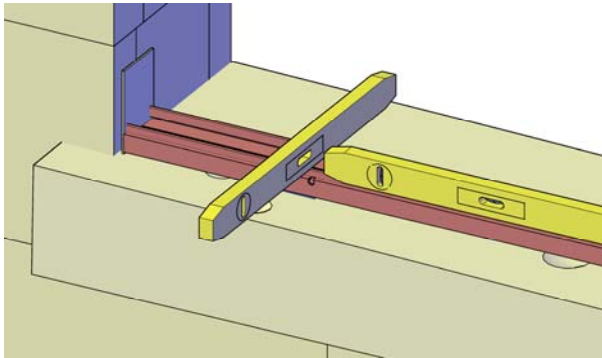

Fig. 7 - Viewed from Building Exterior
5) Set the sub sill & end dam assembly into position and insert shims below to achieve a level installation plane. The shim stack height should be no less than 1/4" to afford sufficient space for the primary silicone weather seal. Consult the sealant manufacturer's documentation to ensure their minimum recommended sealant gap is achieved. Establish the anchor locations and anchor size. The thermal barrier of the sub sill may not be penetrated by the anchor or the anchor's clearance hole. Anchor design, (type, diameter, minimum embedment, minimum edge distance, maximum O.C. spacing, etc. are project specific and also specific to each window opening type. Unless specifically contracted to do so, WINCO will not provide an anchor schedule or make anchor recommendations. WINCO does not provide perimeter anchors / fasteners. All anchor locations must be fully supported by a shim stack made from non-compressible shims to prevent bowing and twisting of the sub sill when the anchors are tightened. See Fig. 7 & 8